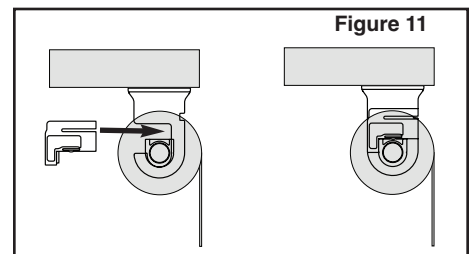

Figure 11
11. Insert the locking tab securely onto the J-Brackets. When properly installed you should hear or feel a latching of the parts. (See Figure 11)